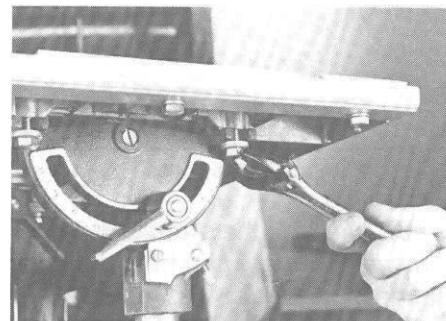

Figure 13. Loosen all four bolts.
b. To align the slots, loosen the four bolts that hold the table to the trunnions at least 1/2 revolution. (See Figure 13.) Carefully shift the table in one direction or the other until the side of the table butts flush against the disc. Then tighten the bolts in rotation, 1/4 turn each, until all four are secure. Recheck the alignment of the miter gauge slots by extending the disc again.